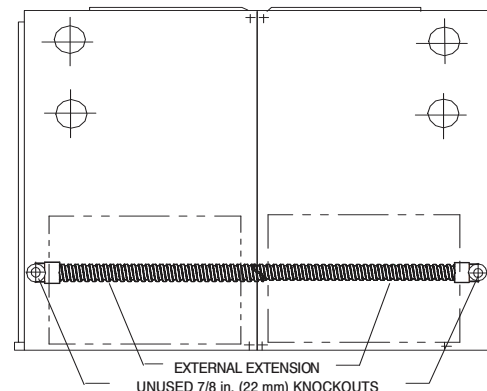

Fig. 1 – External Extension
- In the Back-to-Back, upflow, downflow and horizontal applications, reference the furnaces from the side of the external extension harness. The LH furnace is the Main furnace and the RH furnace is the Secondary furnace, as you would see them in the upflow application. (See Fig. 1 and Fig. 3)